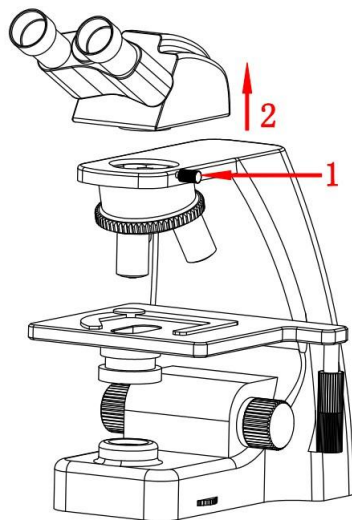

Figure 1
1. Separate eyepiece part from objective part as shown in figure 1